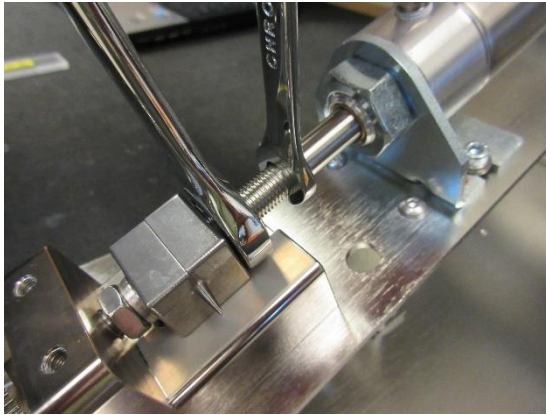

Figure 3.2.2
- Using a 3/8” open end wrench to hold the cylinder on the flats and a 11/16” open end wrench break the upper jaw nut loose by turning counter clockwise. *Figure 3.2.2*